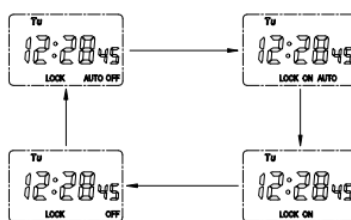

Figure 13
6.3 After locking the switch, press “MD” and “ $\triangle$ ” at the same time to switch manual/automatic status. Continuously press them together, the screen will show “AUTO OFF”, “ON”, “ON AUTO” and “OFF” successively, see Figure 13. When the circuit shall be on and off temporarily in the process of operation, the combination buttons can be used to adjust the switch to ON and OFF; if the time switch shall work automatically according to the set time, the combination button shall be used to adjust the switch to “ON AUTO”, then the time switch may work as set, so as to achieve automatic control.